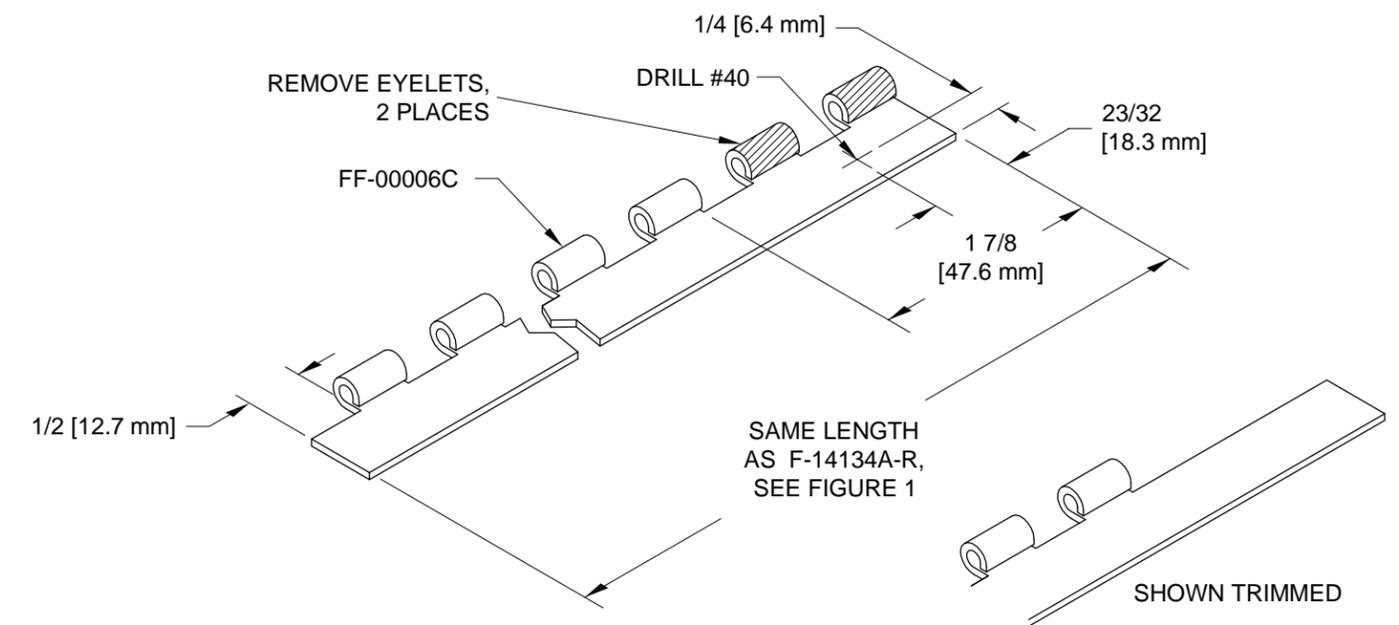

FIGURE 4: FABRICATE RIGHT HINGE
Step 5: Repeat the above Steps for the FF-00006C Cowl Attach Piano Hinge but refer to Figure 4 (and Figure 3) instead.
Step 6: Remove two eyelets from the end of the FF-00006C Cowl Attach Piano Hinge as shown in Figure 4.